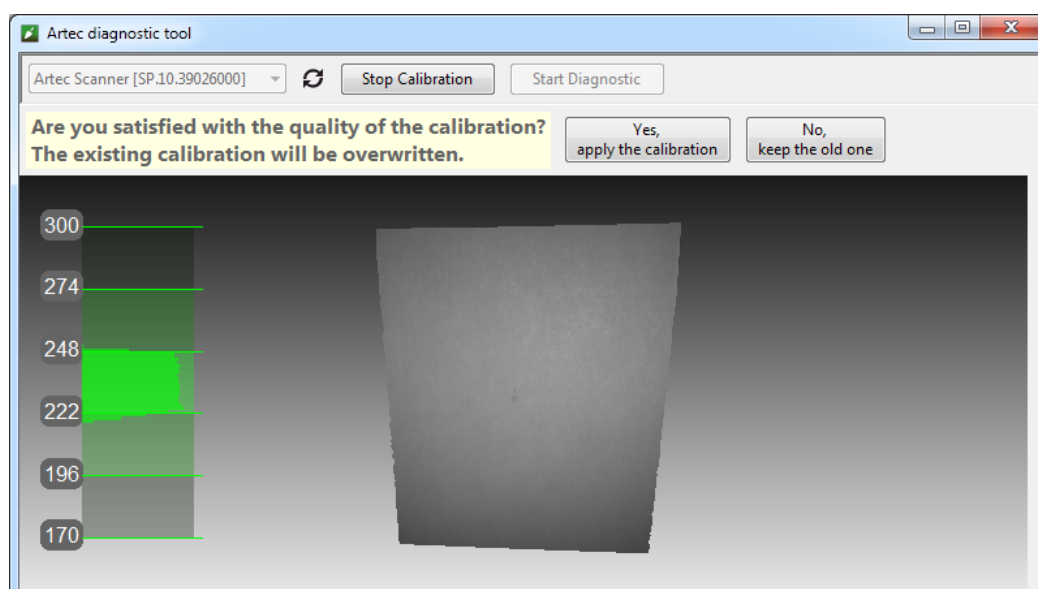

Figure 142: Assessing calibration results.
11. Click *Yes, apply the calibration* if no holes appear on the surface and you are satisfied with the reconstruction results. To reject the new calibration, click *No, keep the old one* (see Figure 142).